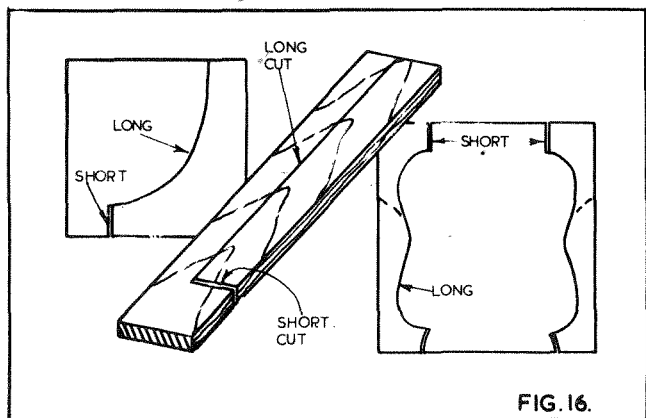

FIG.16.
- (b) **MAKE SHORT CUTS FIRST** - See Fig. 16. When a choice of starting points is offered always make short cuts first. Back tracking out of a short cut can be done much more quickly than backing out of a long cut.